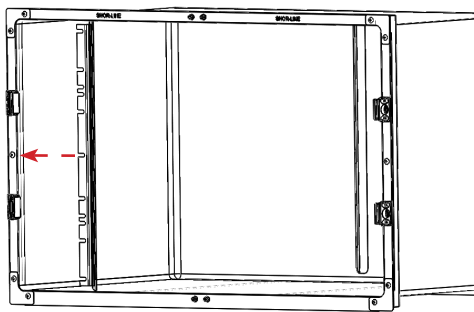

FIGURE 2.15 - Left Jamb Seal Installation
**STEP 2:** Align the slots on the jamb seal (side) with the hardware screws. Slide the jamb seal under the trim plates, strips and hardware. Secure the jamb seal with the center screw, do NOT fully tighten. See FIGURE 2.15